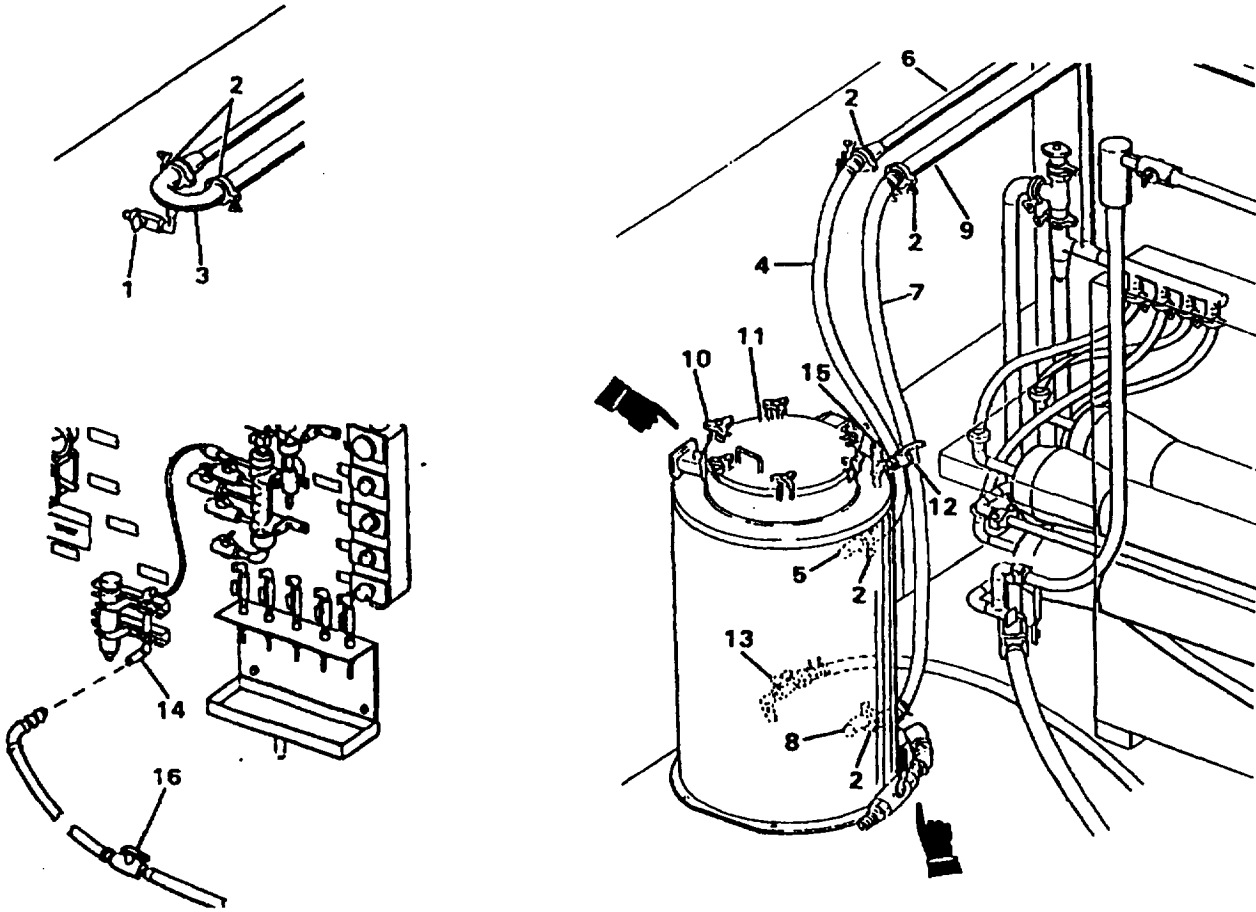

Figure 2-72. NBC Filter Set-Up
- a. *Assembly and Preparation for Use (Figure 2-72).* Follow normal procedures given by paragraph 2-14 and connect the NBC filter as follows: